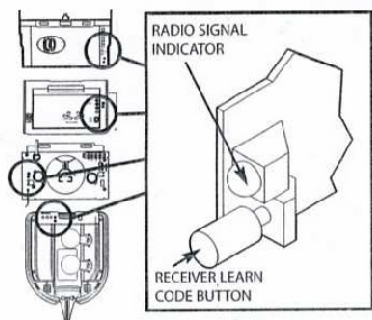

Fig. 1
**Step 2-2** Press and release the Learn Code Button (Figure 1)